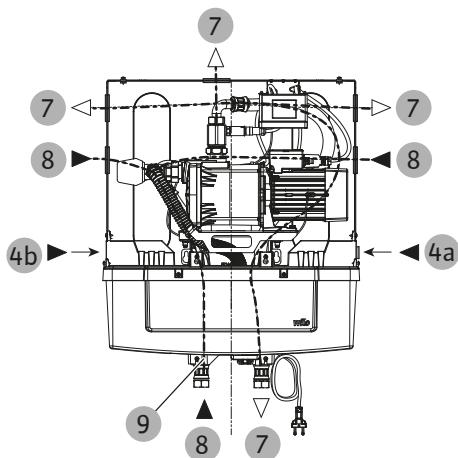

Fig. 14: Hydraulic connections
- Connection for industrial water distribution (G 1" union nut) (Fig. 14, Item 7).
- Tap water pipe (G 3/4") (Fig. 14, Item 4 or Turn tap water connection [▶ 56] section Item 4a or 4b)
A connection with a flexible hose in conjunction with a shut-off valve is strongly recommended. The connection to the replenishment valve (Fig. 14, Item 4) should be made with a flat seal and a union nut.
- Suction line from the rainwater storage tank (G 1" union nut) (Fig. 14, Item 8)
- Connect overflow connection (Fig. 14, Item 9) for small leakages with overflow hose (on-site, Ø 19–21 mm inside diameter) (Fig. 2, Item 29)
The tap water inlet (Fig. 1, Item 4) is fitted as standard on the right-hand side (Fig. 14, Item 4a) of the replenishment reservoir. To facilitate installation, it is possible to switch to the left side (Fig. 14, Item 4b).